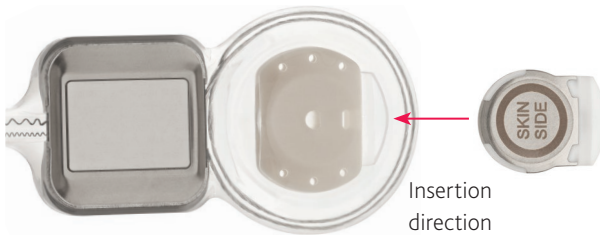

Figure 27: Replacement magnet cassette insertion direction
- the engraving SKIN SIDE (or MRI) is facing up – see *Figure 27* below.